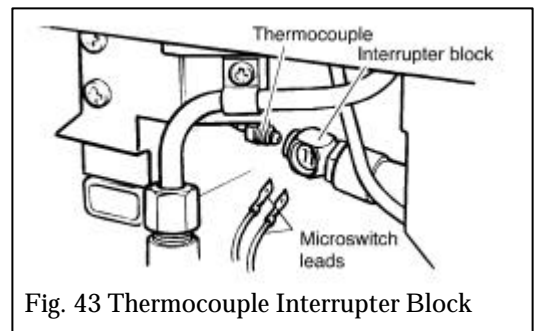

Fig. 43 Thermocouple Interrupter Block
14.8 TO REMOVE THE THERMOCOUPLE INTERRUPTER BLOCK (See figure 43)